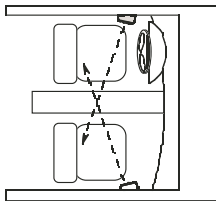

Figure 4a
3. Treble is directional in nature. This means that high frequencies are reduced as you move off the tweeter's axis. If possible, rotate the speakers so that the angle of the tweeter points across the car to the listener on the opposite side. This will make each listener slightly off-axis to the tweeter that is closest to that listener, but on axis to the most distant speaker, which helps compensate for the fact that each listener is always closer to one speaker than to the other (see Figures 4a and 4b). Choosing mounting locations which satisfy all of the above criteria will provide the most satisfying performance.